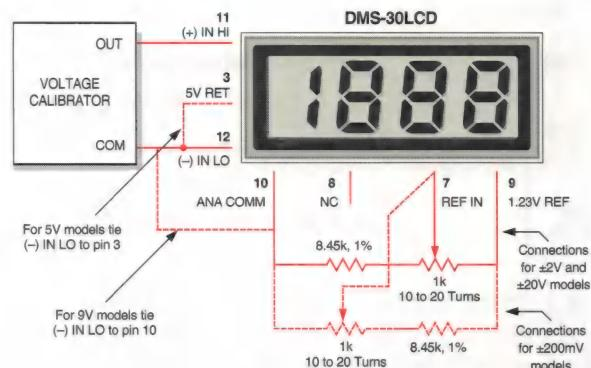

Figure 9. External Gain Adjustment
7. **External Gain Adjustment:** Connect REFERENCE OUT (pin 8) to REFERENCE IN (pin 7) for normal, factory calibrated, operation. Use the +1.23V REFERENCE OUT (pin 9) for applications needing external gain adjustment. Figure 9 shows the wiring configuration for each model. Calibration is performed with a precise, near-full-scale, input voltage.